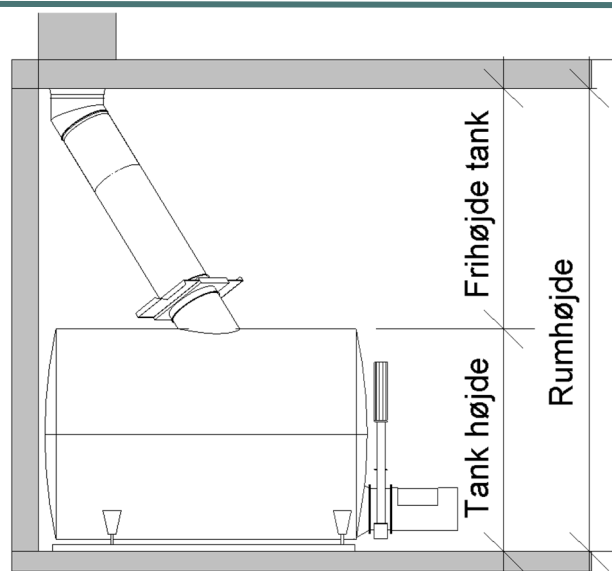

Figure 23 - Tank Height, Height Clearance & Compartment Height
Room height = Tank height (TH) + Clearance above tank. See Figure 23.